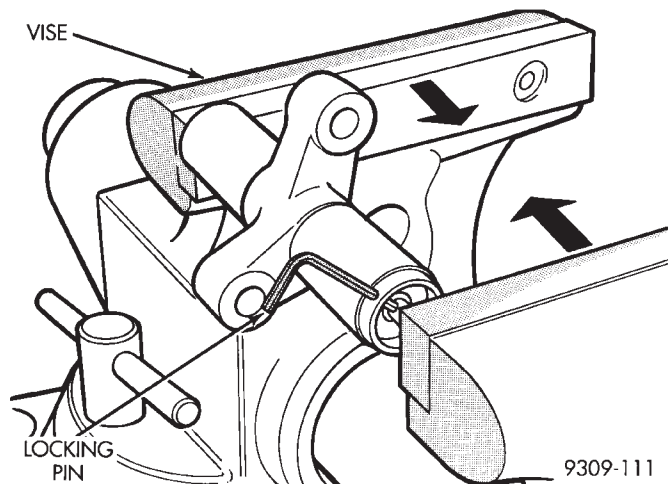

Fig. 68 Compressing Timing Belt Tensioner
(4) When tensioner is removed from the engine it is necessary to compress the plunger into the tensioner body.
(5) Place the tensioner into a vise and slowly compress the plunger (Fig. 68).